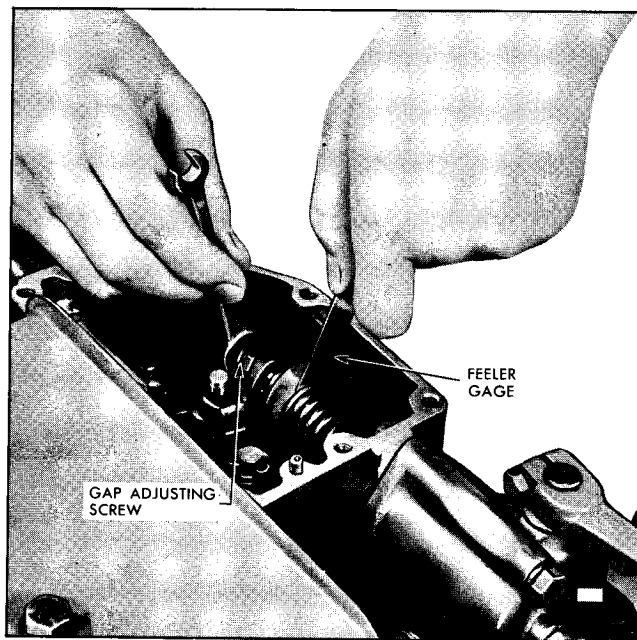

Fig. 2 - Adjusting Governor Gap
3. Insert a .006" feeler gage between the spring plunger and the plunger guide as shown in Fig. 2. If required, loosen the lock nut and turn the adjusting screw in or out until a slight drag is noted on the feeler gage.